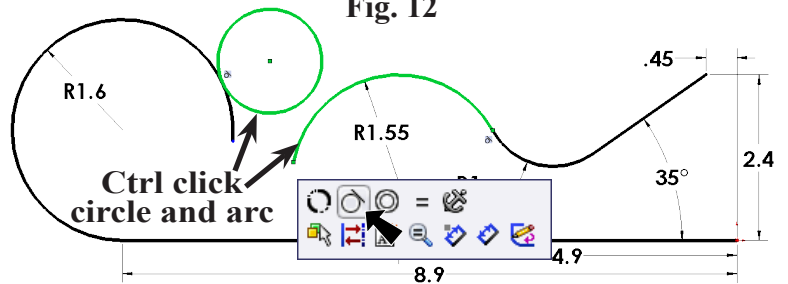

Fig. 13
Step 5. Make **other arc tangent** with circle. To make tangent, **Ctrl click other arc and circle** to select both, release **Ctrl** key and click **Make Tangent**  on the Content menu, Fig. 13.